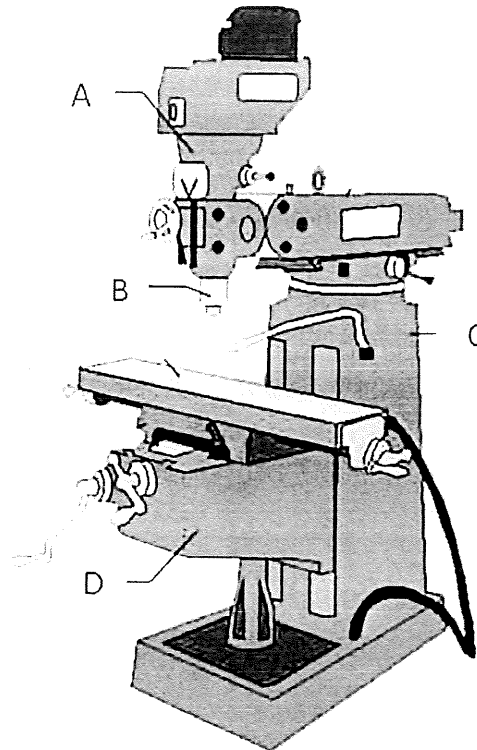

Figure 4
- d) **Describe** four (4) common lathe operation. (8 marks)
- a) Referring to Figure 4, **name** parts of milling machine labeled with A, B, C & D. (4 marks)